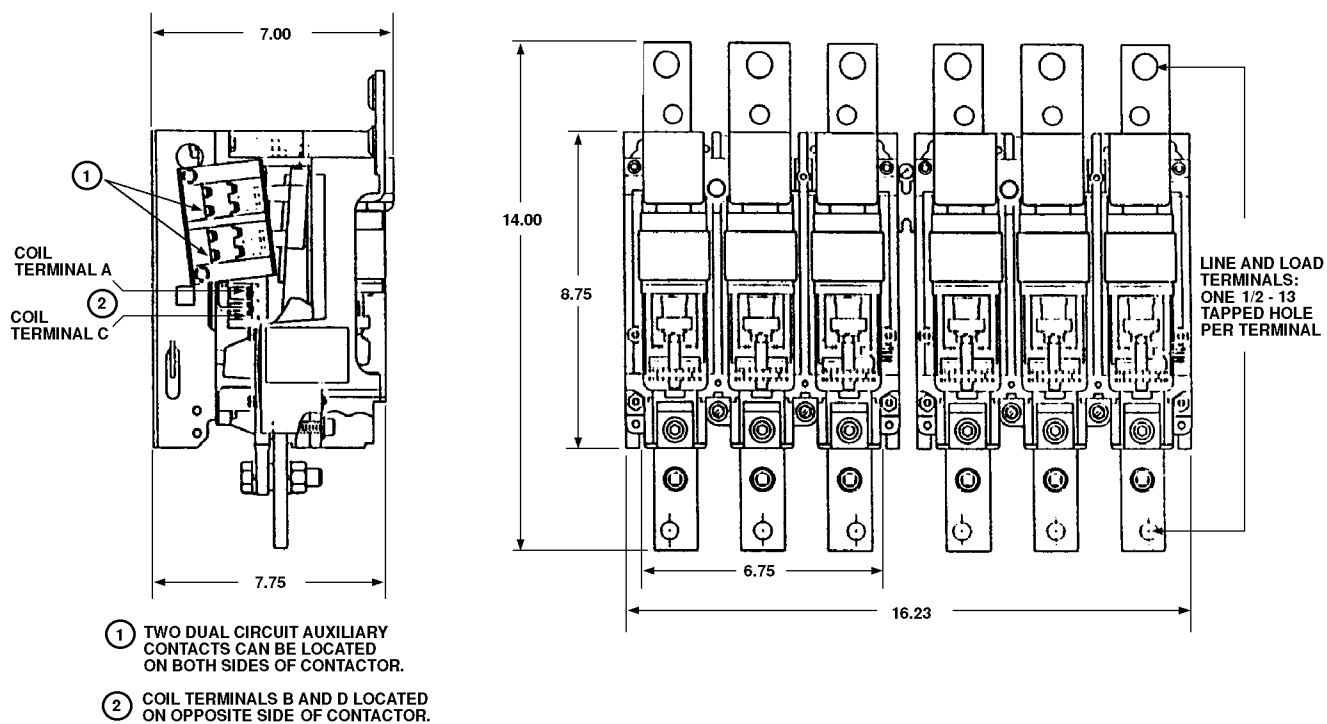

Figure 4 Dimensional Drawing (Inches), Class 8502/8702 Type WHO
1. Disconnect all power. Test to make sure there is no voltage present at the main power terminals or at the coil terminals. Coil terminal location is shown in Figure 4 on page 9.
Note 1: Coil terminals A, B, C and D shown in Figure 4 on page 9.